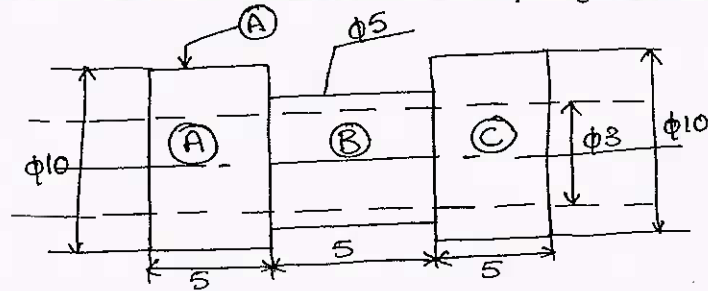

Fig.Q.10(b)
b. A C.I. stepped bar is shown in Fig.Q.10(b). Taking density of CI as 7.0208 gm/cc. Calculate unit of component. Also what is the cost of material if cost per kg is Rs.100? (06 Marks)